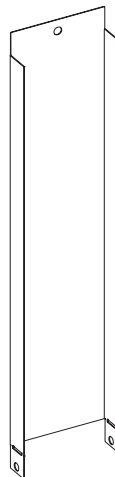

Figure 16
7. Locate the steel standoff brackets inside the hardware box. See **Figure 16**.